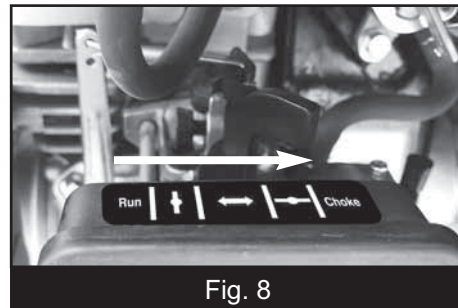

Fig. 8
3. Set the choke lever to the CLOSED position (Fig.8).